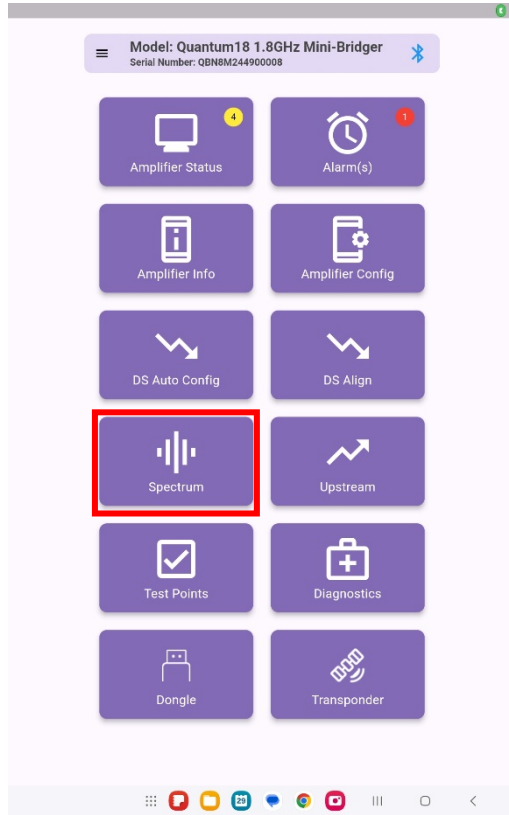

Figure A- 13: Spectrum Tile
10. Select Spectrum Tile, see Figure A-13.